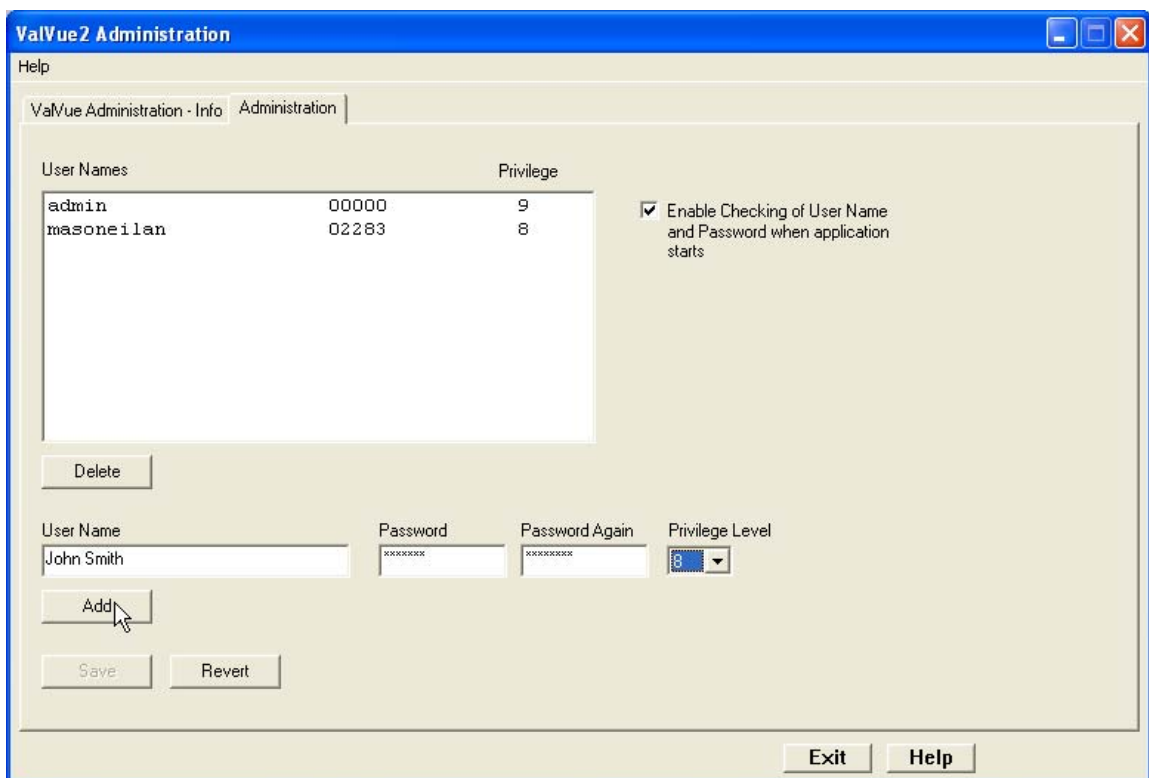

Figure 9 Adding a ValVue User
4. Select **Login** to start an *Administration* window (Figure 9).